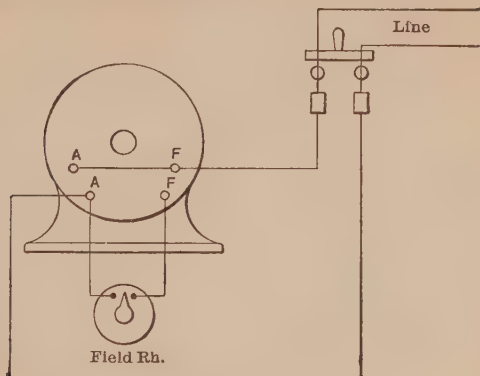

FIG. 160.
**Prob. 33.** Is the shunt generator of Fig. 160 connected correctly? If not, make the proper changes.
**Prob. 34.** Suppose that the upper wire in Fig. 160 (when generator is correctly connected) is (+) and it is desired to make it (-), what changes would you make?